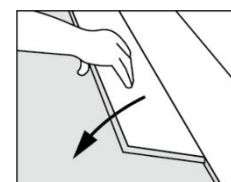

Figure 3
10. Begin the second row with the cut piece from the first row (**Figure 3**). If the cut piece is shorter than 20 cm (8 in), do not use it. Instead, begin with a new plank that is at least 20 cm in length and allows 20 cm between the end joints on the adjacent planks.
14. Install the remaining planks and rows in the same manner (**Figures 3,4 & 5**).